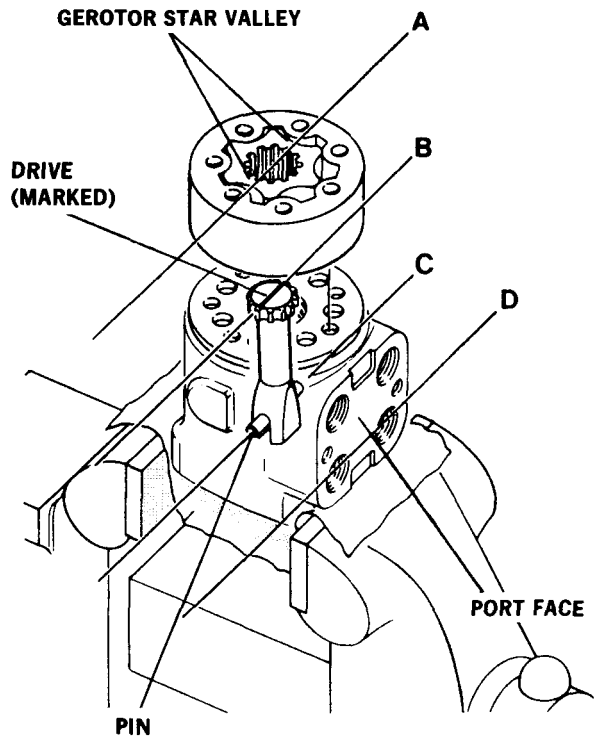

Figure 6-4. Drive and Gerotor Installation
q. Clamp housing (9) in vise, fourteen hole end up. Use protective material on vise jaws and clamp lightly on mounting area. Do not overtighten.
r. Wipe upper surface of housing with palm of hand. Do not use cloth or paper, Ensure that control spool (19) and sleeve (16) are flush with housing end.
s. Install seal (20) and spacer plate (21). Align bolt holes in spacer plate with tapped holes in housing.
t. Rotate control spool (19) until centering pin (18) is parallel with port face of housing (9). Install drive (23) engaging centering pin (18). To ensure proper alignment, mark drive (23) as shown in figure 6-4, reference B. Note relationship between slotted end of drive to splined end of drive when marking.
v. With seal side of gerotor (24) towards spacer (21), align star valleys (figure 6-4, reference A) on drive (reference B). Note parallel relationship of reference lines A, B, C, and D. Align bolt holes in gerotor (24, figure 6-2) without disengaging gerotor and drive.
x. Install seal (26) in end cap (27). Install end cap (27) and align bolt holes.